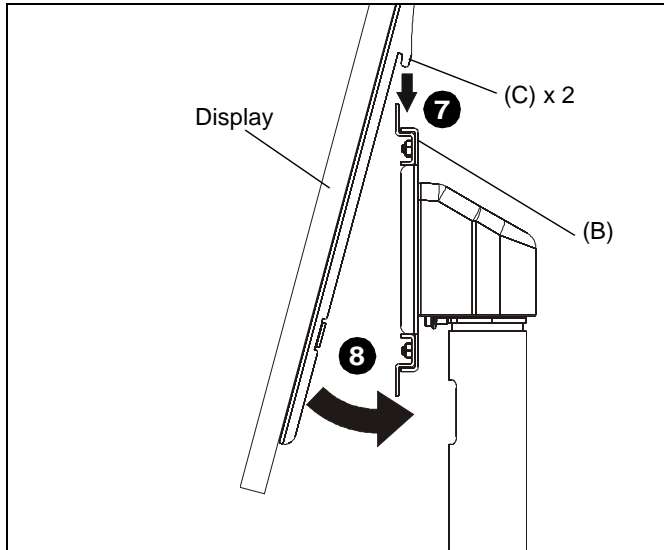

Figure 7
7. Hang display onto top rail of table stand interface (B) using hooks on top of vertical interface brackets (C). (See Figure 7)
8. Gently set back of display against lower rail of table stand interface. (See Figure 7)